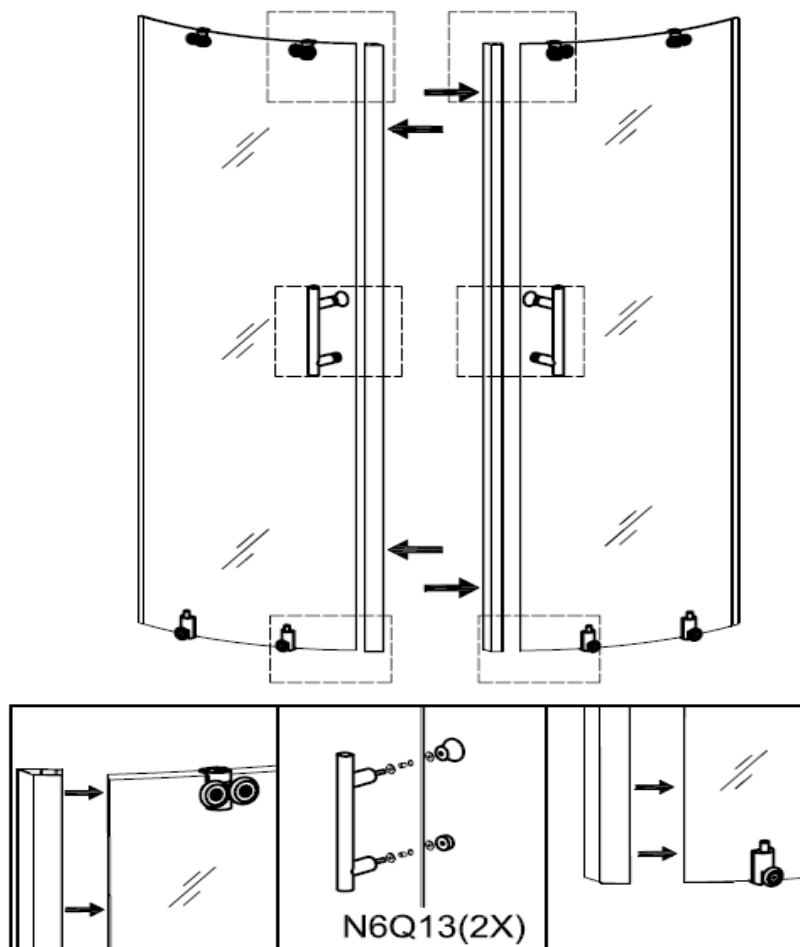

Figure 12
12. Click the strip(N6Q6) to the moving panel and install the handles ,as showed in figure 12.